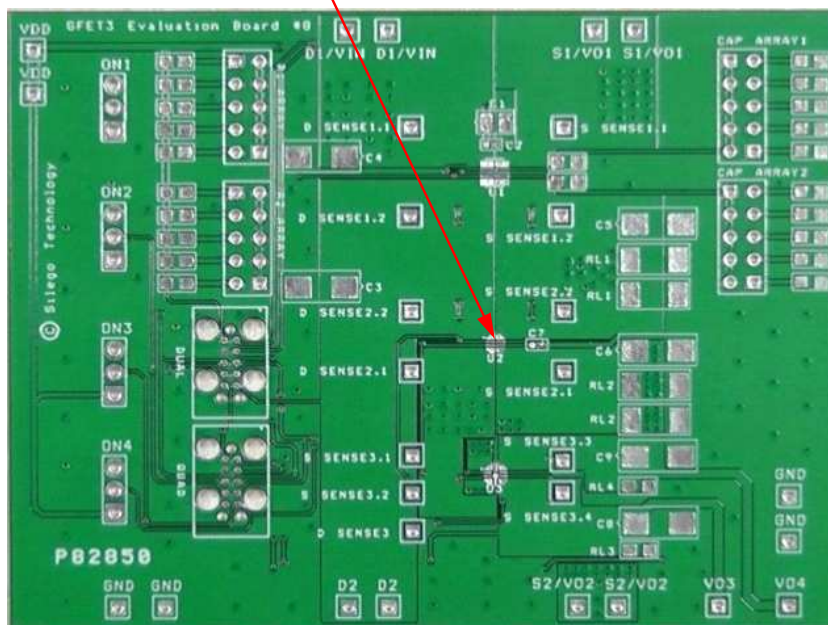

Figure 1. SLG59M1512V Evaluation Board.
2. Since the D1, D2, S1 and S2 pins dissipate most of the heat generated during high-load current operation, it is highly recommended to make power traces as short, direct, and wide as possible. A good practice is to make power traces with absolute minimum widths of 15 mils (0.381 mm) per Ampere. A representative layout, shown in Figure 1, illustrates proper techniques for heat to transfer as efficiently as possible out of the device;
A GreenFET Evaluation Board for SLG59M1512V is designed according to the statements above and is illustrated on Figure 1. Please note that evaluation board has D\_Sense and S\_Sense pads. They cannot carry high currents and dedicated only for RDSON evaluation.